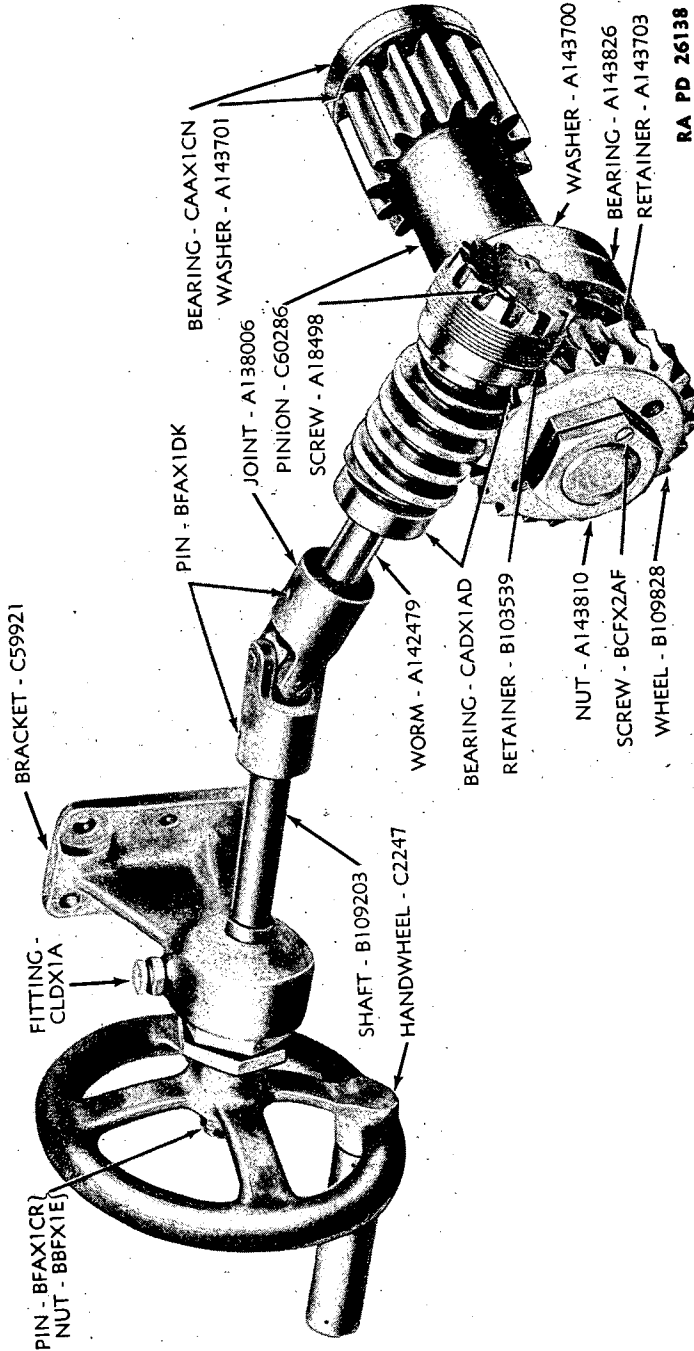

Figure 119—75-mm Howitzer Carriage M3A3—Elevating Mechanism Arrangement.
(2) The tipping parts of the piece may be elevated or depressed by means of the elevating handwheel, located on the right side of the top carriage.
(3) The major parts of the elevating mechanism are the elevating handwheel, handwheel shaft, handwheel shaft bracket, flexible joint, worm, worm wheel, pinion, and antifriction bearings (fig. 119).
(3) REMOVE ELEVATING HANDWHEEL SHAFT BRACKET (figs. 119 and 120).